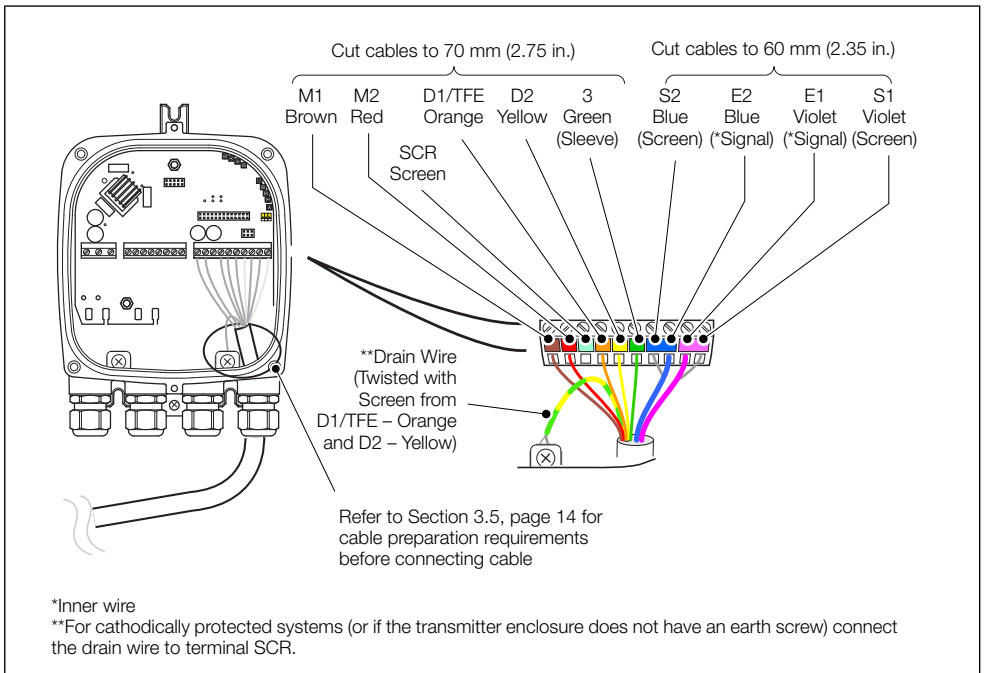

Fig. 3.6 Sensor cable connections at transmitter terminal block – standard system
3. Cut the cable connection wires to the lengths shown in Fig 3.6, page 15.